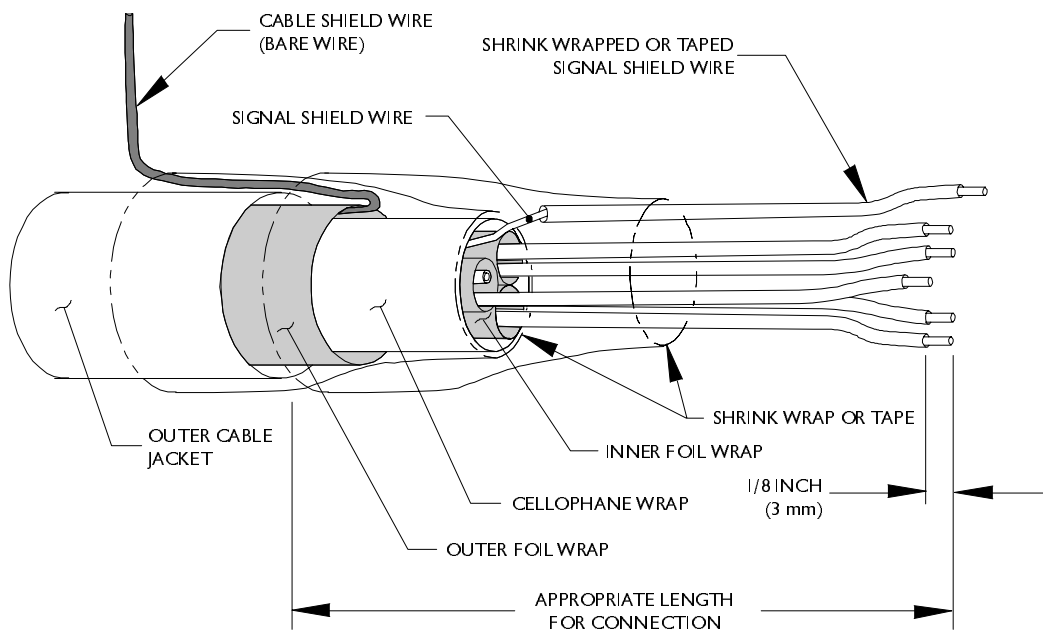

FIGURE 2-7 CE Termination Details (for CE-only applications)
1. Refer to Figure 2-7 and carefully strip back an appropriate length of the outer cable jacket and outer foil wrap. This exposes the signal shield wire, cable shield wire, and cellophane-wrapped wire bundle.